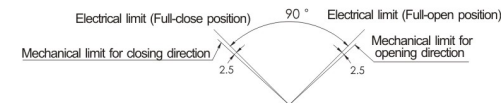

Fig. 7
- 5) After the adjustment, the effective stroke of electric actuator, electric limit and mechanical limit shall meet the requirements of Fig. 7, which means under abnormal conditions the switch for stroke shall be protected electrically. Only after the stroke switch being defected, the mechanical switches shall be initiated. During operation, if mechanical switch is advance or coincidence with the electrical limit, the motor’ s turning will be blocked at full-open or full-close position, the motor will be overheated or burn out if not handle it in time.